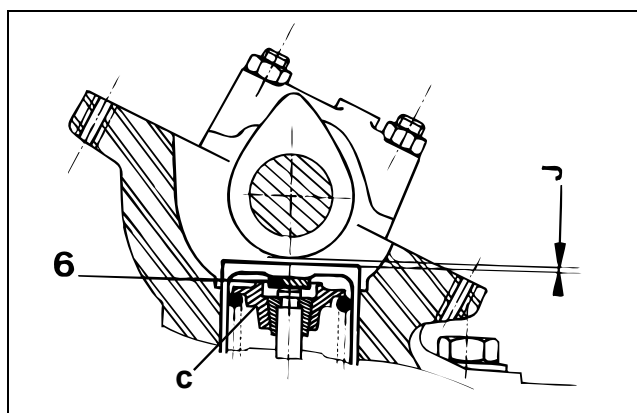

Figure 69
12. Install the shims as removed in step 2. If replacing cylinder head or if cylinder head has been machined, install a basic shim (Fig. 69, Item 6) (2.425 mm thick) to each valve stem and check that each shim is higher than the spring cup (Item c). If a shim is not higher than the cup, grind the top of the cup (Item c).